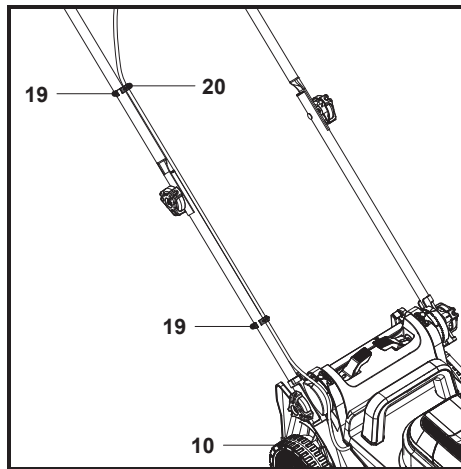

Fig. 4
6. Attach the control cord (20) with the two cord clips (19) (Fig. 4).